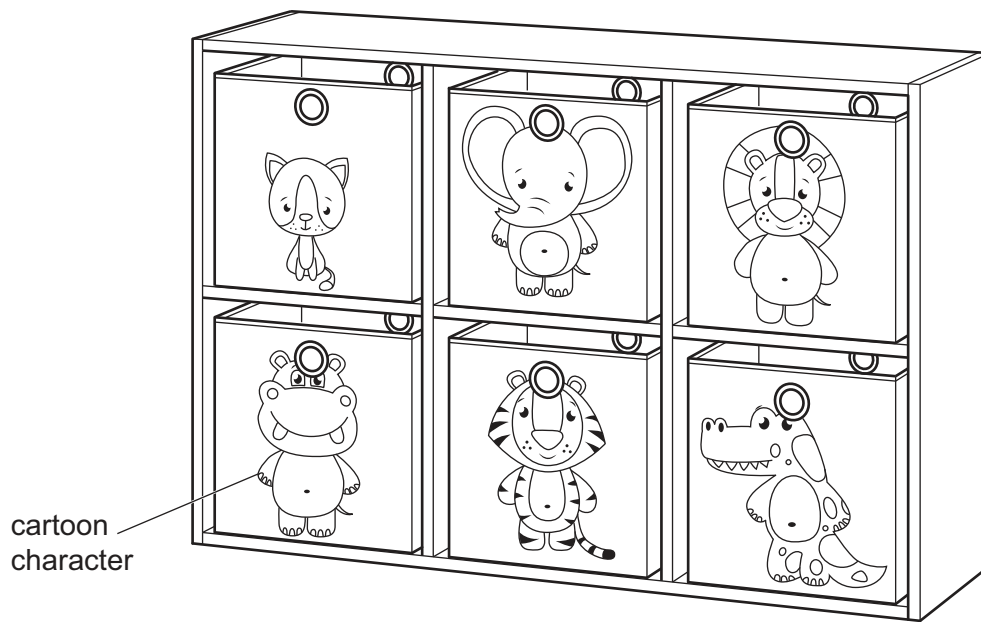

Figure 6.1
- 6 Figure 6.1 shows a storage system that has been modified, by adding cartoon characters, so that it appeals to young children.